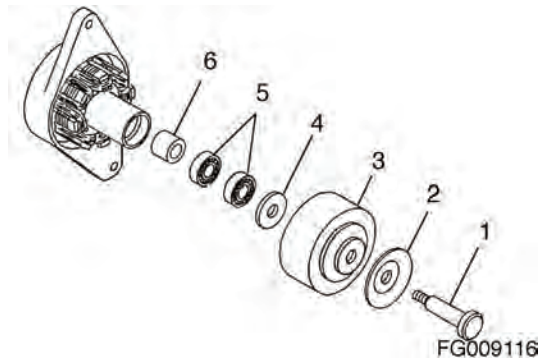

Figure 407
3. Remove the through bolt (1, Figure 407), pulley half (2, Figure 407), flywheel (3, Figure 407), flat washer (4, Figure 407), bearings (5, Figure 407), and spacer (6, Figure 407).